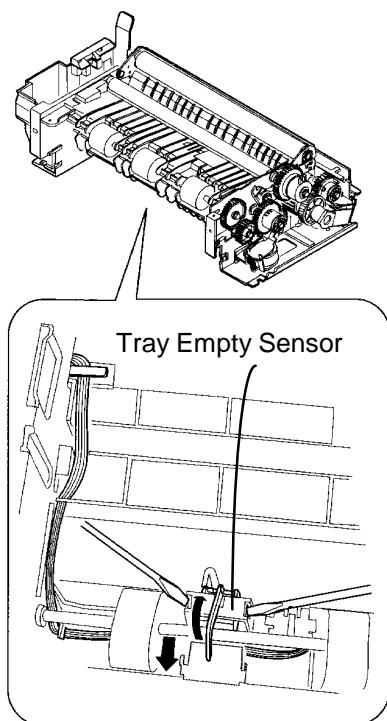

Figure 1. Removing the Tray Empty Sensor
2. (Figure 1): Unclip and carefully remove the Tray Empty Sensor in the direction shown.